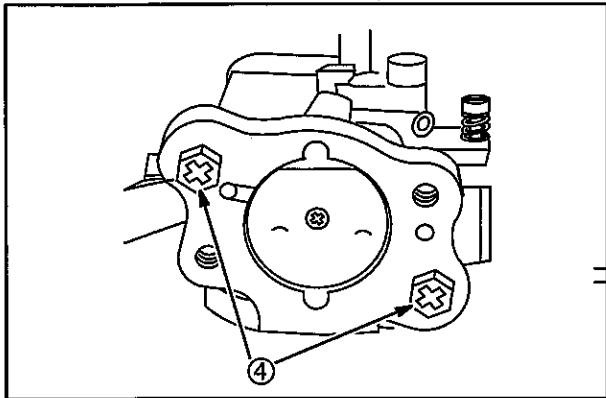

Fig. 10
4. Remove carburetor mounting screws (4) and carburetor, **Fig. 10**.